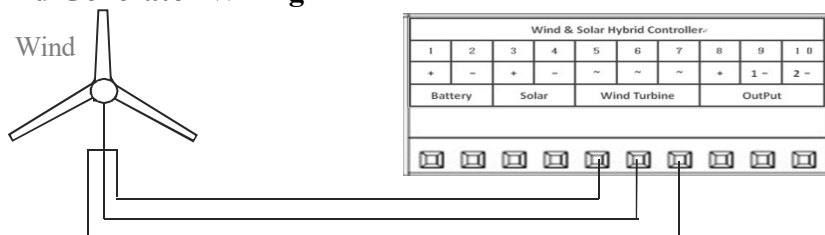

Figure2-4 Wind generator wiring
- ⚠ Connect wind generator wires to controller as shown in figure2-4.